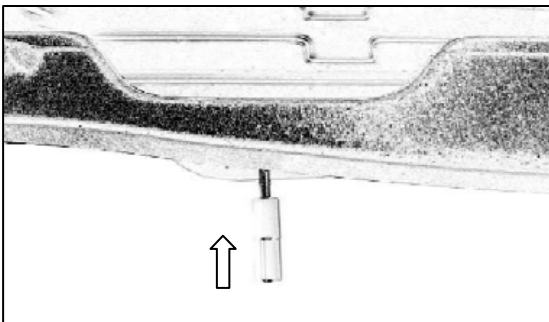

Figure 5
7. Insert the knob stud into the hole on the driver's side rear of the bin. Push the 2 (two) spacers onto the stud even with the end of it to protect the vehicle trim from being damaged during install. **See Figure 5**